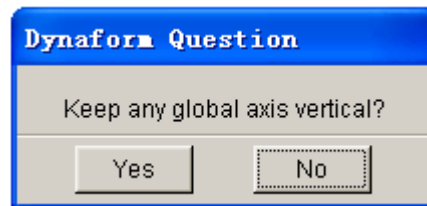

Figure 13.7.1 DYNAFORM Question dialog box
- The eta/DYNAFORM QUESTION dialog box illustrated in Figure 13.7.1 is displayed.